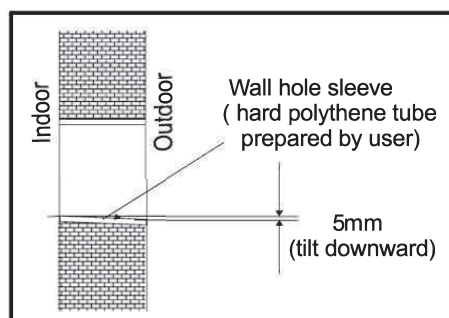

Fig. 2
- 3) Install a sleeve through the wall hole to keep the wall tidy and clean. (Fig. 2)